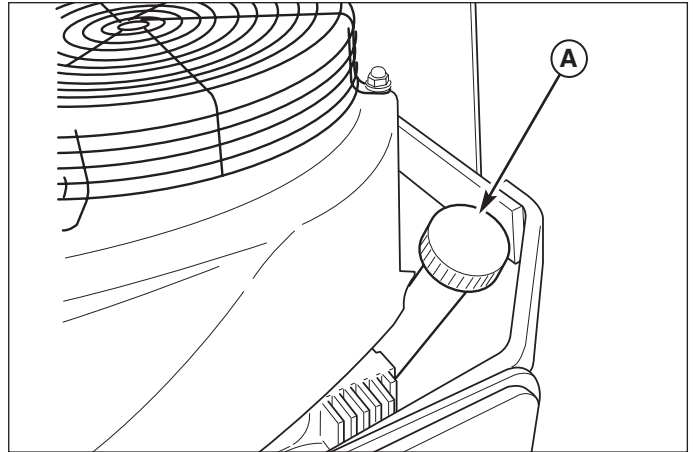

Figure 11. Pre-start Checks
1. Use the dipstick (A, Figure 11) to check the engine oil level. If necessary add engine oil. Check the engine manufacturer's owner's manual for the oil recommendations.